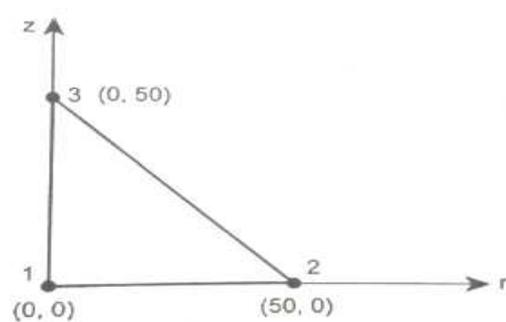

Fig. 2
26. For the element shown in figure 2, determine the stiffness matrix. Take $E = 200$ GPa and Poisson's ratio (μ) = 0.25. The co-ordinates shown in figure 2 are in millimeters. CO5 [K₂]